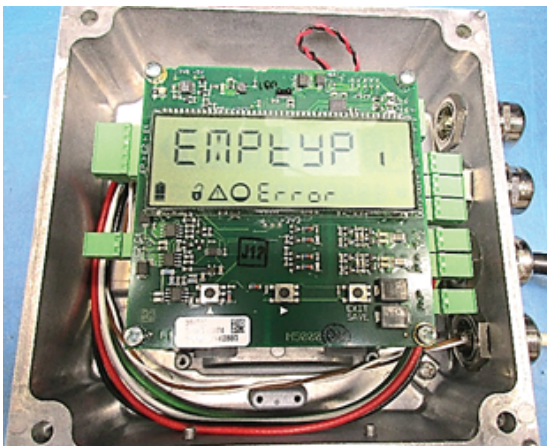

Figure 9: M5000 wires routed around bottom of housing
- Route the wires of the electrode and coil terminal blocks around the bottom of the amplifier housing. See Figure 9.